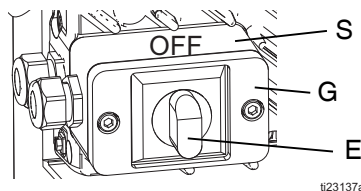

FIG. 3: Power Switch
- Bring cord to unit and remove two screws to separate junction box cover (G) and power switch (E) from remainder of sprayer. See **FIG. 3**.
5. Pull pressure adjustment knob (H) out and turn counterclockwise until it stops. Push the knob in to lock.
6. Turn power switch (E) OFF. Connect unit to power source. See FIG. 3, page 6.